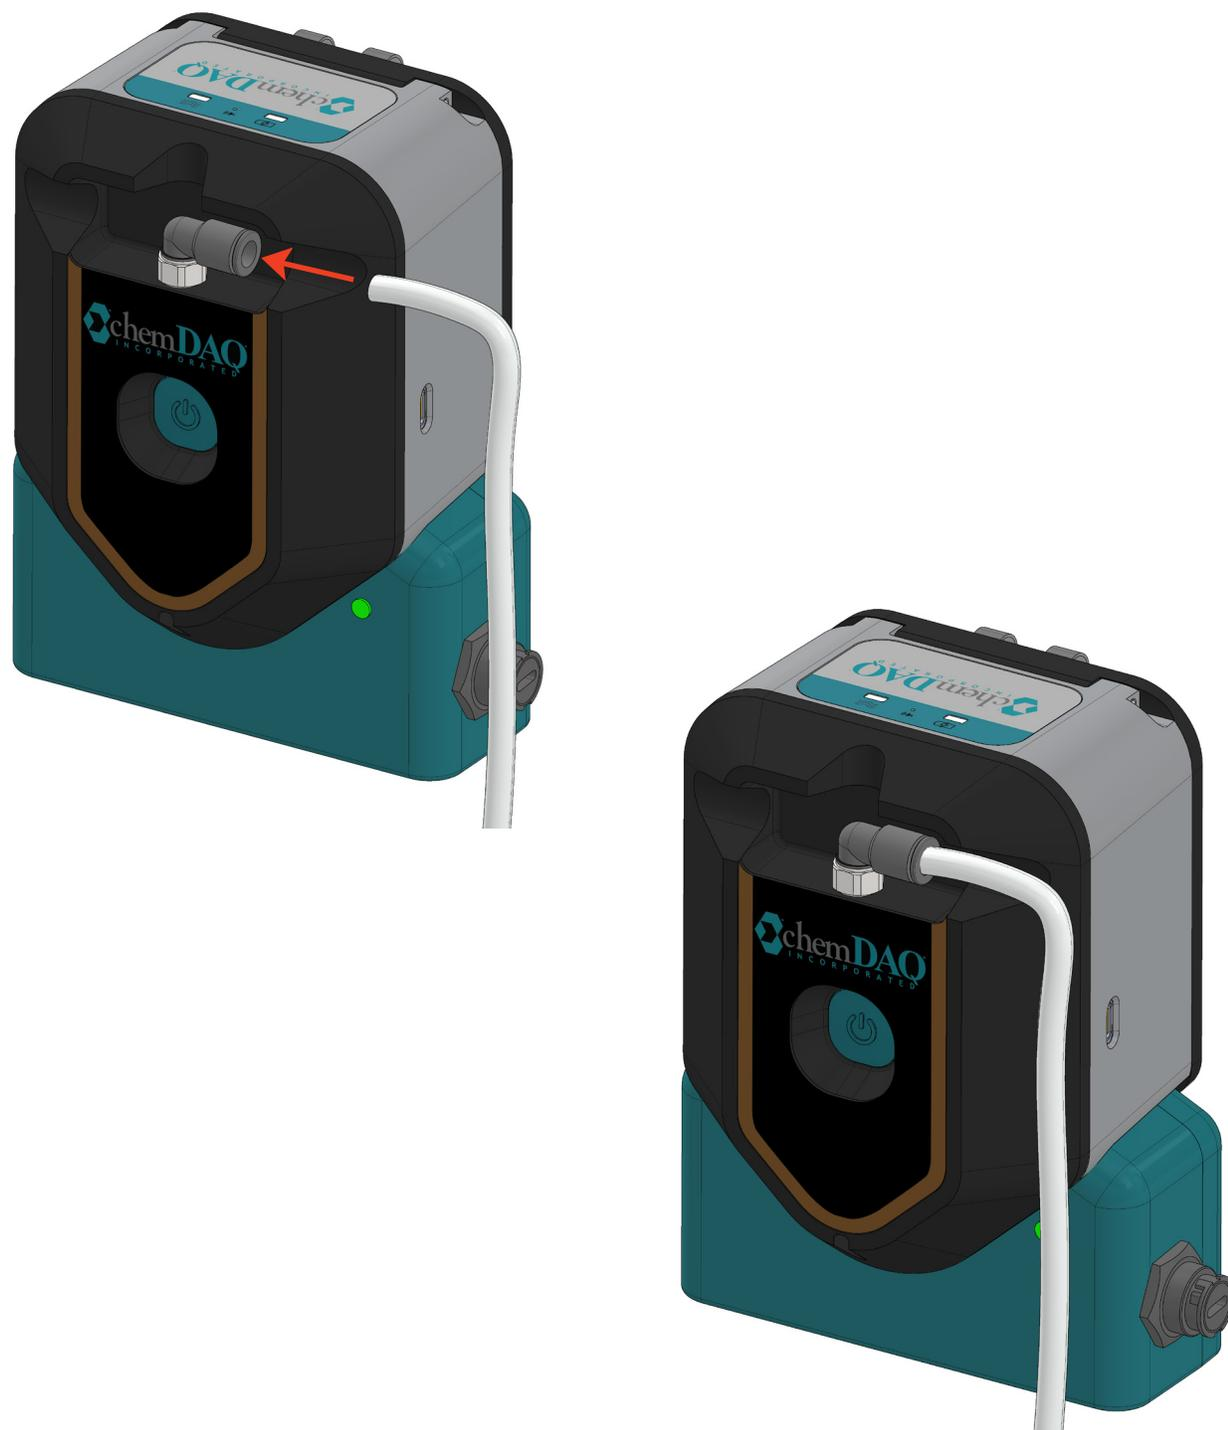

Figure 16: Insert sampling accessory tubing into SPS inlet fitting
4. Attach your preferred sampling accessory by sliding the open end of the flexible tubing into the SPS inlet fitting. Give the tubing a light tug to make sure it is securely connected. (See figure 16)